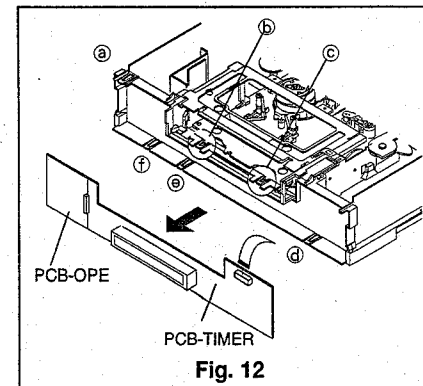

Fig. 12
- ③ Remove six catches (a~f), shown in Fig. 12, then remove the PCB-TIMER/OPE.